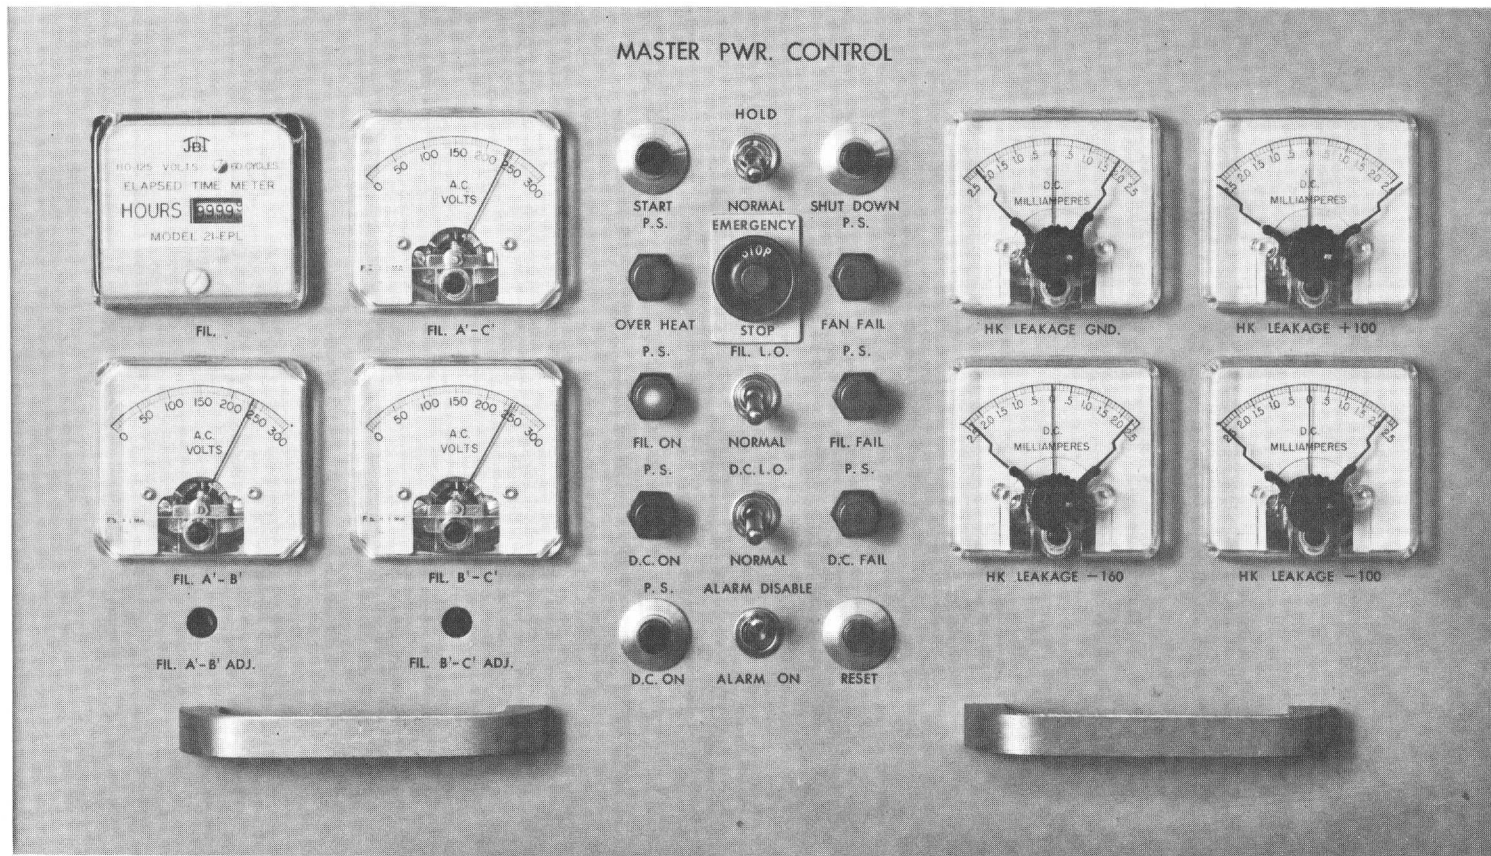

Figure 3-16. Master Power Control Panel.
1. Depress "SHUT DOWN" button on Master Power Control Panel. (Figure 3-16)